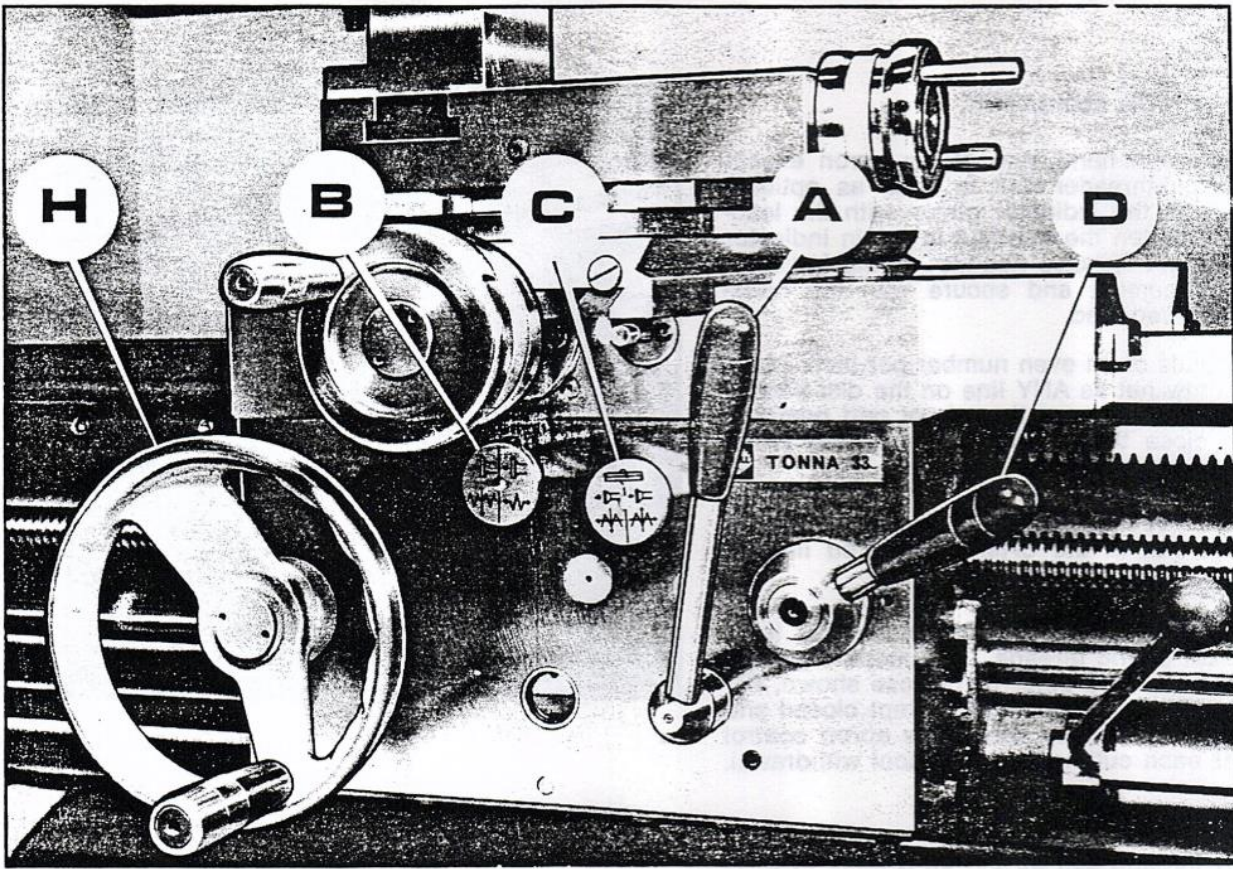

Fig. 13
In addition to handwheel traverse, the carriage can be power-operated through controls on the front of the apron, see Fig. 13. Lever (A) is moved up for power feed engagement and down for manual operation.